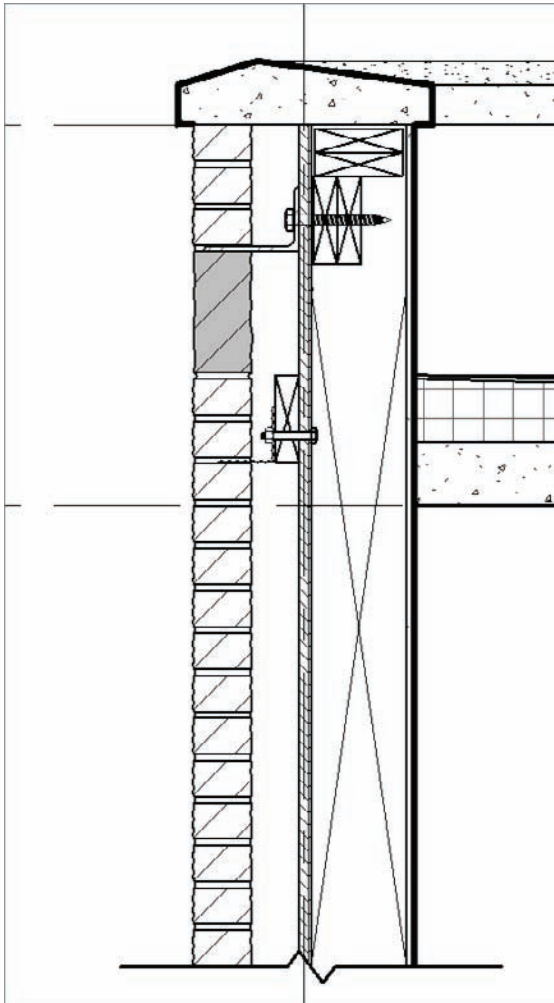

FIGURE 12.50 Adding the detail to indicate studs and plates by using detail lines
12. Draw the X for the blocking, as shown in Figure 12.50.
13. Copy the blocking down to form a double plate (see Figure 12.50).
14. Draw another X below the plates to indicate a stud (again, see Figure 12.50).